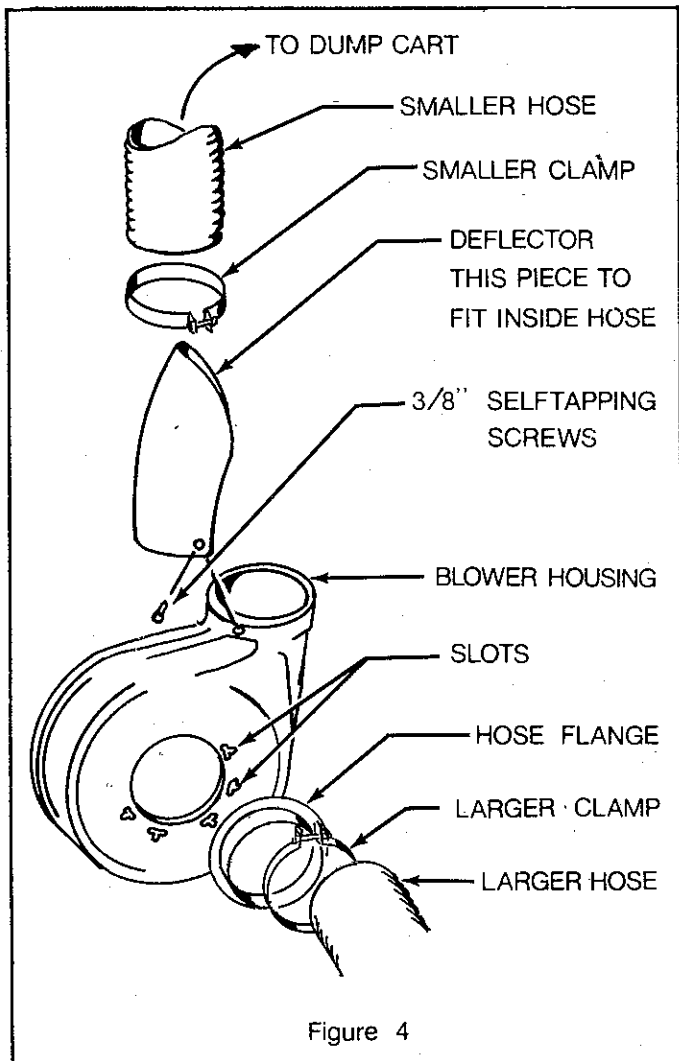

Figure 4
5. Attach the deflector to the blower housing with two  $3/8$ " self tapping screws (Figure 4).
6. Place the 6" diameter hose over the deflector and blower housing and secure with the smaller of the hose clamps using one  $1/4-20 \times 2$ " machine screw, lockwasher and hex nut (Figure 4).
- Mount one end of the 7" hose to the hose flange using one of the larger hose clamps and one 1/4-20 x 2" machine screw, lockwasher and hex nut (Figure 4).
- Slide the hose flange into the slots in the blower housing (Figure 4).
1. Install the hose flange and a hose clamp on the plain end of the hose. Secure with one 1/4-20 x 3" machine screw, lockwasher and hex nut (Figure 4).
3. Attach the flanged end of the roving nozzle to the blower housing, seating the flange fully in the slots (Figure 4).